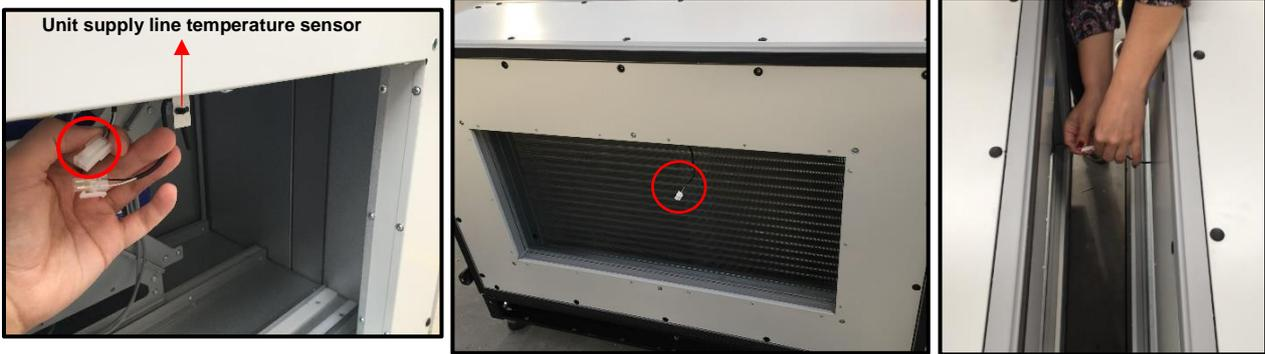

Fig. 46
2. Remove the temperature sensor from the unit supply line. Bring the module and device closer together. Connect the device connector and the water after heater module connector each other (Fig. 46)